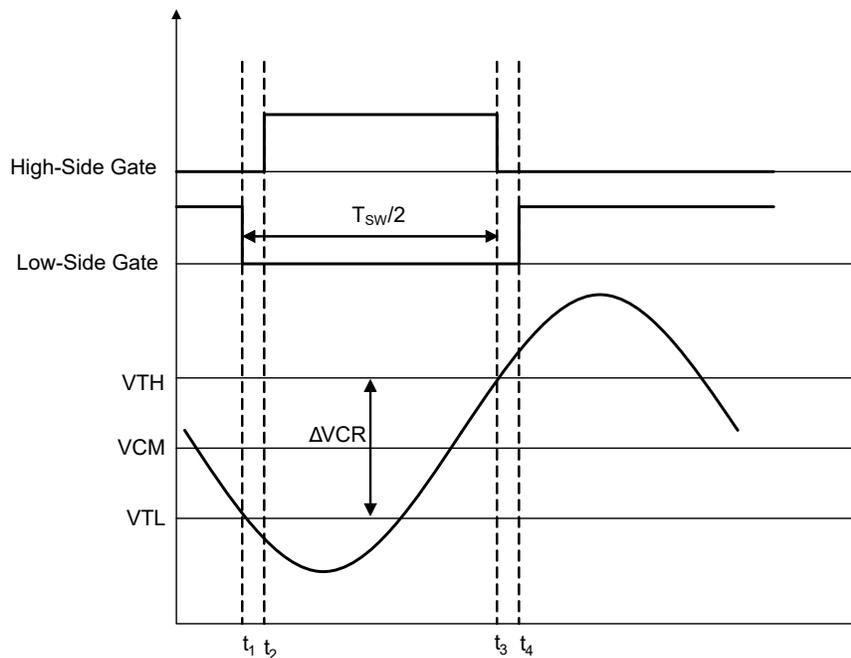

Figure 2-17. HHC Control Basic Waveforms
- Figure 2-17 shows that when VCR > VTH, high side gate signal (HO) turns off and when VCR < VTL, high side gate signal (LO) turns off. These thresholds are related to Vcomp signal as given in Equation 2 and Equation 3. The turn on instants of the HO and LO signals depends on the adaptive dead time control given in the Section 2.7.